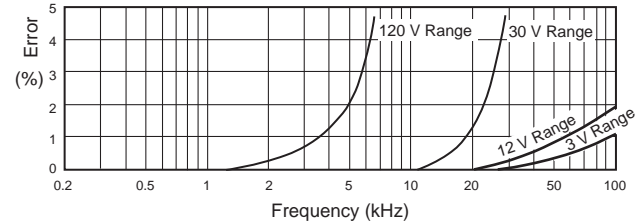

Fig 3.1 Frequency Characteristics
5. When it is desired to measure a voltage of high frequency, connect the [COM] terminal to the ground side of the measuring circuit. This arrangement prevents indication errors caused by the stray capacitance between the tester and the ground. (Refer to **Fig 3.1 Frequency Characteristics** in which an example of the frequency characteristics is shown.)